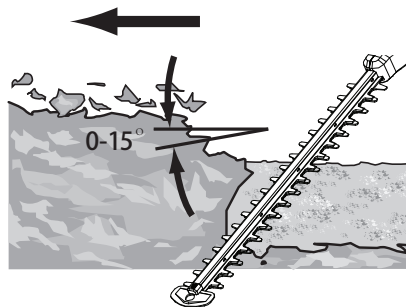

Fig. 28
8. After cutting the sides proceed to the top. Try to keep the cutting device angled at approximately  $15^\circ$  to the cutting surface (Fig. 28).